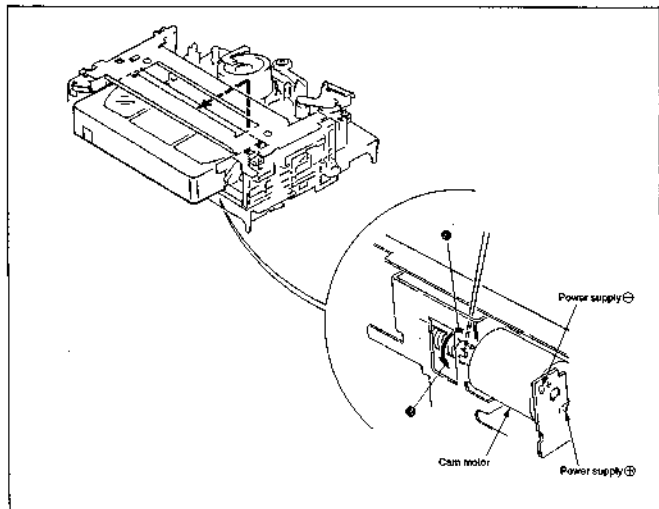

Fig. 1-2
**1-2. UNLOADING AND UNTHREADING PROCEDURE WHEN THE POWER TURNS OFF (Figs. 1-2 and 1-3)**
- 4) Check that tape is not loosened completely, and apply approx. +9 V (300 mA) to contrary polarities of cam motor with regulated DC power supply. (Fig. 1-2)